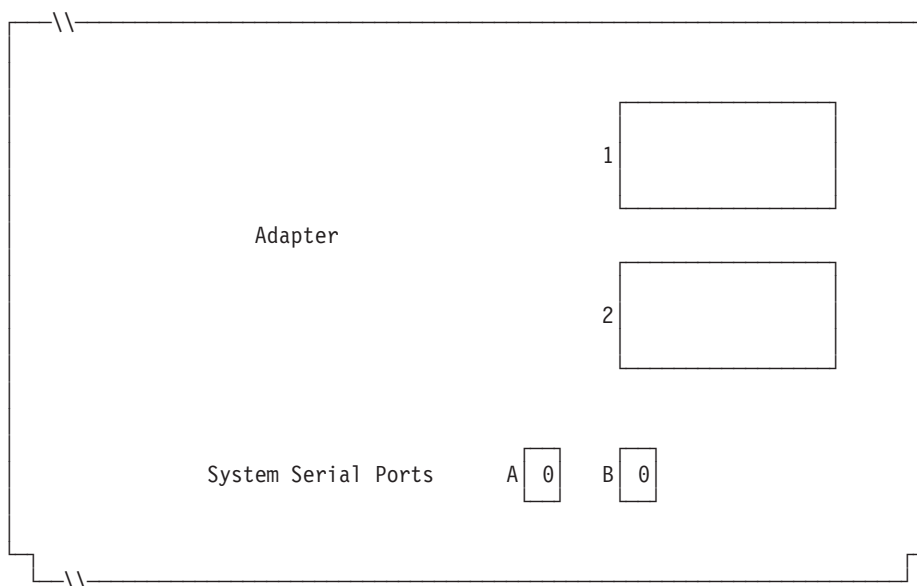

Figure 122. Right Side of Rear of 4694-2x7 Controller/Terminal
6. If terminal applications use the asynchronous port, write the port number on Figure 122. Use a 0 if the terminal does not use a port. Valid port numbers are 1, 2, 3, 4.